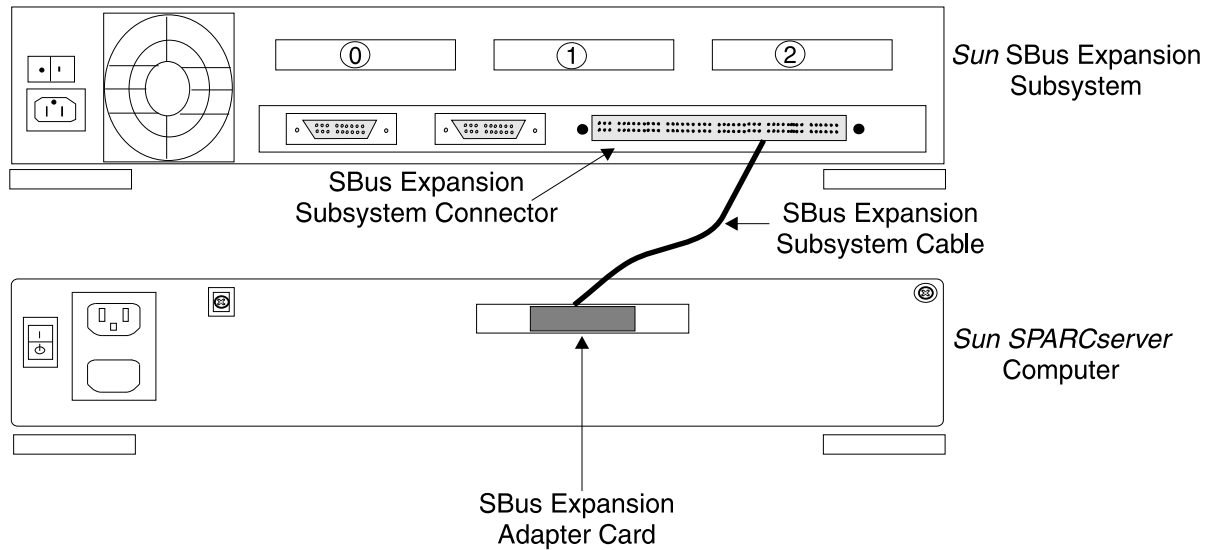

Figure D-24: SBus Expansion Subsystem Connected to a *Sun SPARCserver* Computer
3. Attach the other end of the SBus Expansion Subsystem cable to the SBus Expansion connector (labeled SBus EXP) on the rear of the SBus Expansion Subsystem (see Figure D-24).